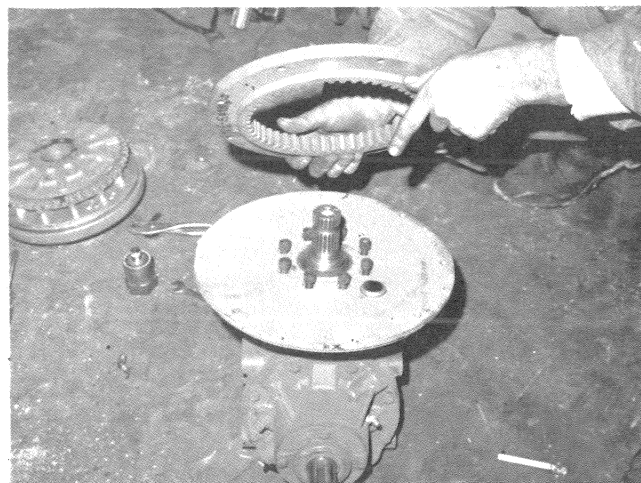
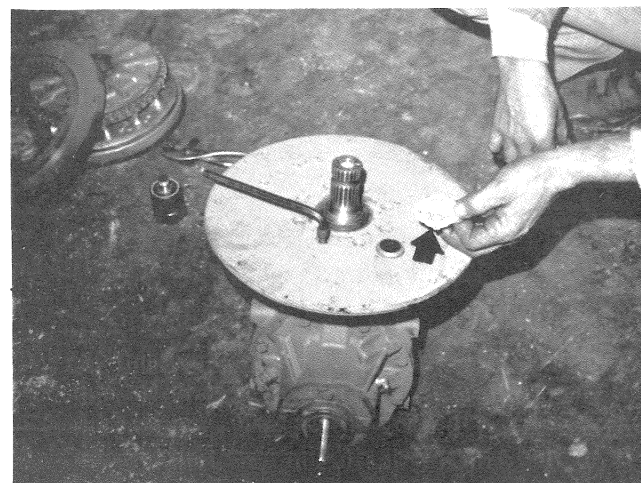

Figure 8. Removal, Clutch drive-ring
Figure 9. Thermal Switch
- (9) At this point the thermal switch is clearly visible. Exercise great care to prevent damage to this switch. The dark colored portion is an integral and very important working part of the switch (Fig. 8 & 9). In Fig. 9, a thermal switch from stock is held above the installed switch to indicate the terminals on the reverse side of the switch.